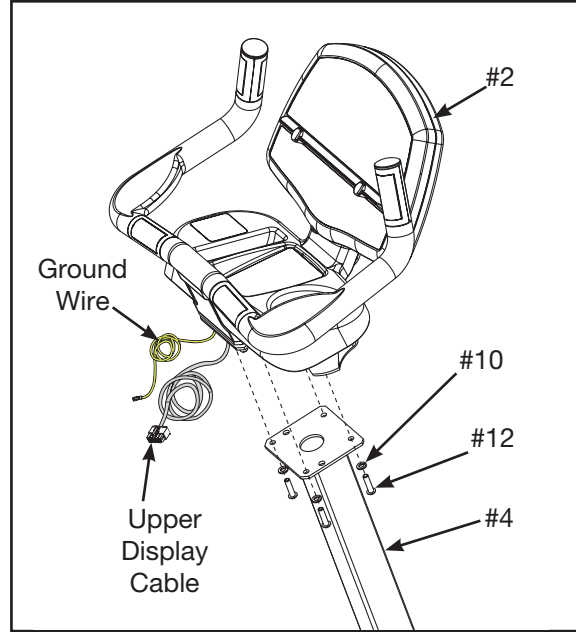

Figure 3
- A. Locate the console assembly (#2), upright tube (#4), four mounting screws 5-16-18 X 1.25 (#12) and washers 5-16" (#10). See Figure 3.
- C. Place the console assembly (#2) in the correct position on the upright tube (#4) and hand thread each of the four screws 5-16-18 X 1.25 (#12). See Figure 3.